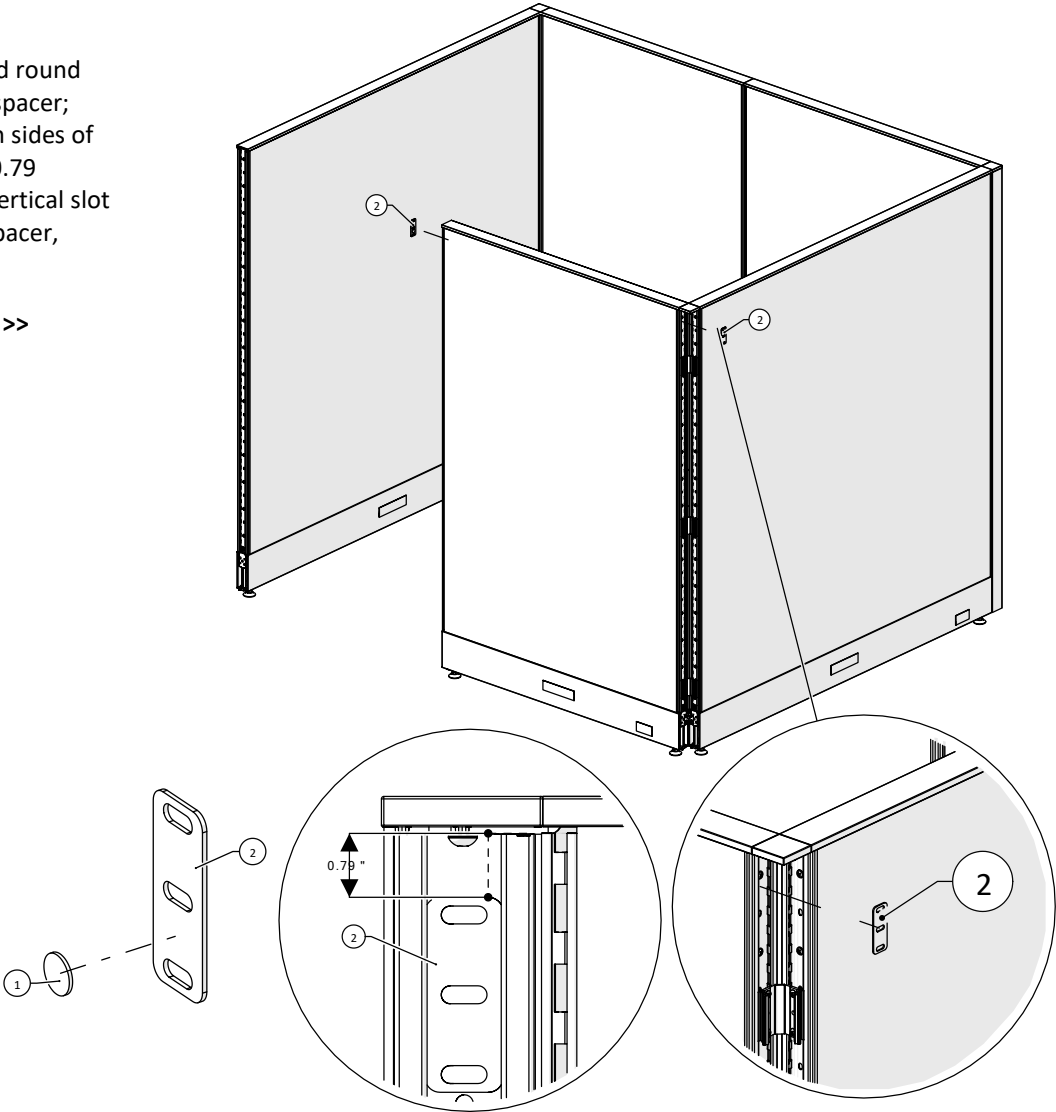

Figure 2
2. Peel off the double-sided round tape and stick it on the spacer; place the spacer on both sides of the frame at 20 mm or 0.79 inches from the top of vertical slot to the top edge of the spacer, (Figure 2).